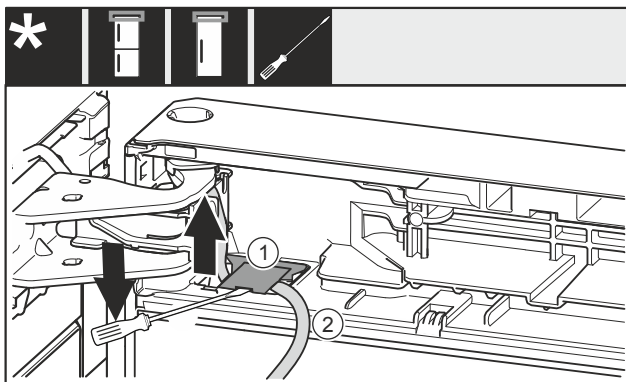

Fig. 10
- Use the slotted screwdriver to lift the cover Fig. 10 (1) up and pull it out.
- Pull out the cable Fig. 10 (2).